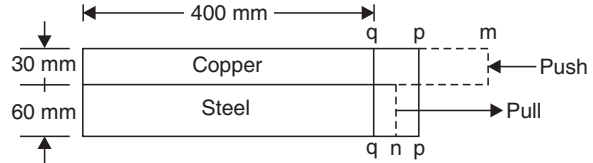

Fig. 12.25
**Example 12.19.** A copper flat measuring 60 mm × 30 mm is brazed to another 60 mm × 60 mm mild steel flat as shown in Fig. 12.25. If the combination is heated through 120°C, determine :
**Sol.** Refer to Fig. 12.25.